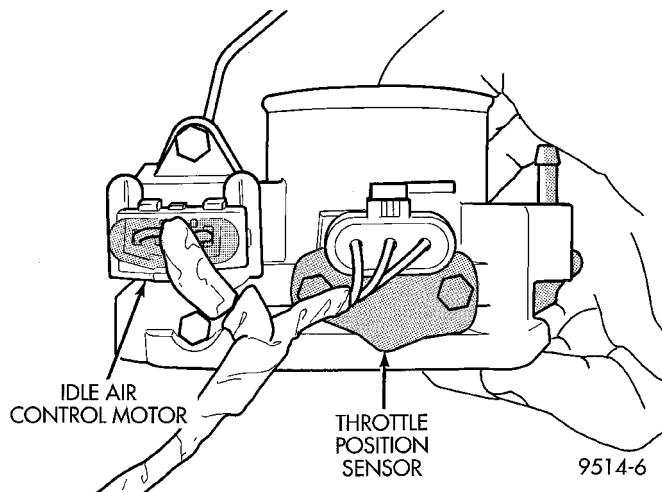

Fig. 57 Idle Air Control Motor and Throttle Position Sensor—Typical
- (5) Check the electrical connections at the idle air control motor and throttle position sensor (Fig. 57).